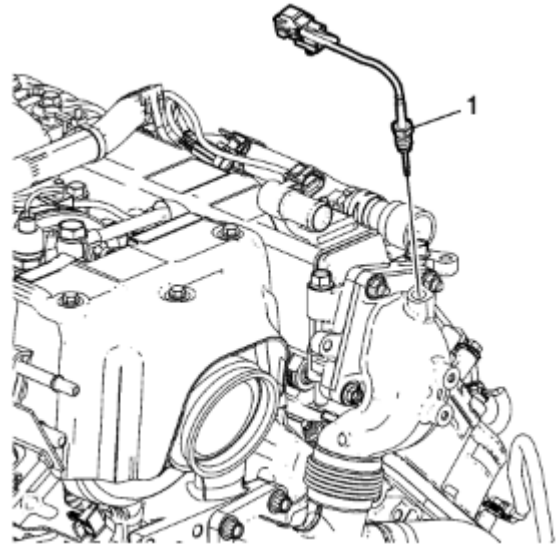

Fig. 18: EGR sensor removal
- b) Remove the EGR sensor as shown in figure 18.